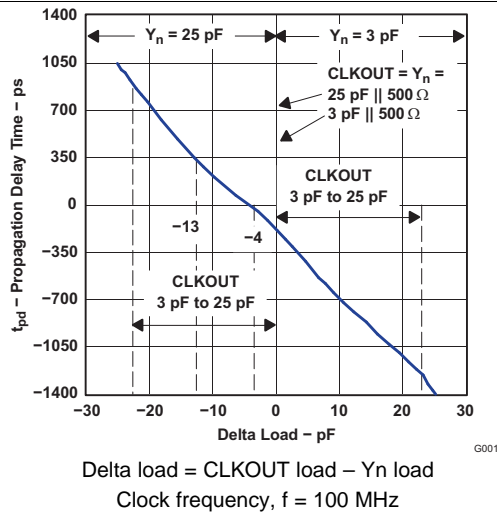

Figure 10. t_{pd} , Propagation Delay Time vs Delta Load
- Look up an initial typical value for the *delta load* using Figure 10: